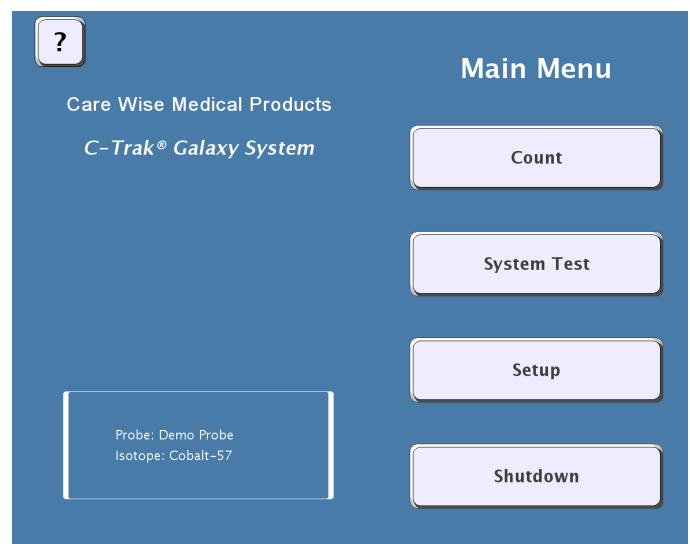
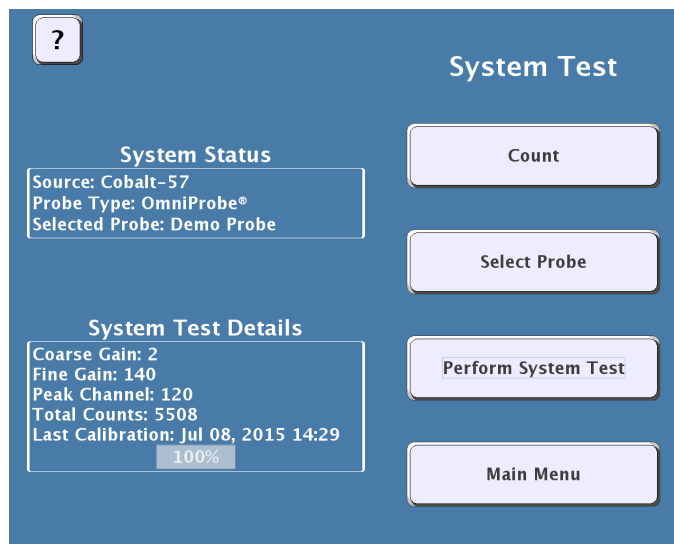

Figure 11 – Main Menu Screen
Figure 12 – System Test Screen
- (8) **Main Menu Button** – Pressing this button directs the user to the MAIN MENU [Figure 11], described in 2.4-6.
The Main Menu [Figure 11], allows the user to navigate to the Count Screen (described in 2.4-1), System Test Screen (described in 2.4-7), and Setup Screen (described in 2.4-8), and also allows the user to turn off the C-Trak® Galaxy System's power using the “Shutdown” button, (described in 2.4-13).
On the System Test Screen [Figure 12], reached from the Main Menu [Figure 11], a user can calibrate and test all functionality of the Galaxy system. When a user presses the PERFORM SYSTEM TEST, the Galaxy system will both calibrate and test the system.